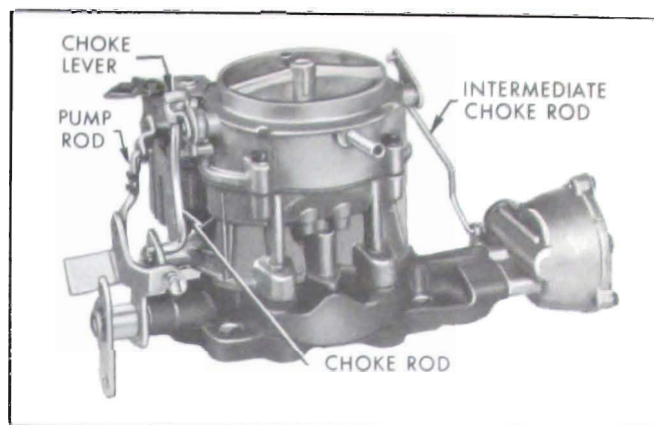

Figure 3-25—Exterior Linkage
12. Engage choke rod in choke lever and fast idle cam. Install fast idle cam screw and tighten securely. See Figure 3-25 for proper installation.